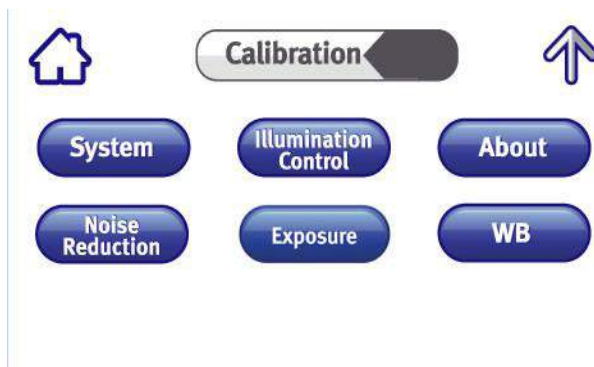

FIGURE 4-14: CALIBRATION SCREEN
2. Press **Calibration**. The Calibration screen (Figure 4-14) appears.
2. Press **Calibration**. The Image screen (Figure 4-14) appears.